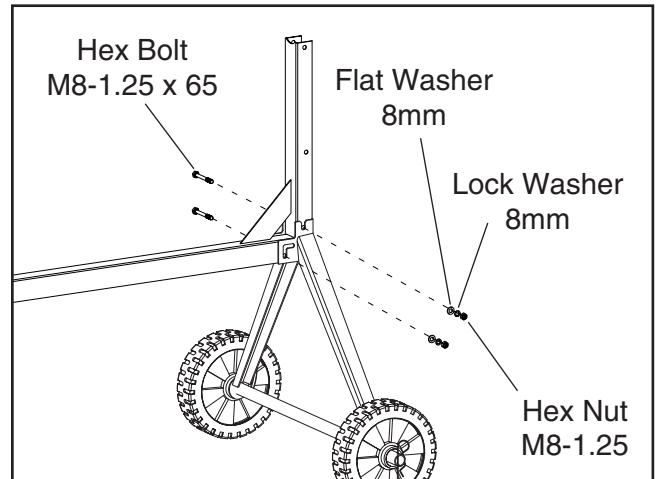

Figure 6. Attaching axle bracket to frame.
4. Attach the axle bracket to the frame with two M8-1.25 x 65 hex bolts on one side and two 8mm flat washers, lock washers, and hex nuts on the other side (**Figure 6**).